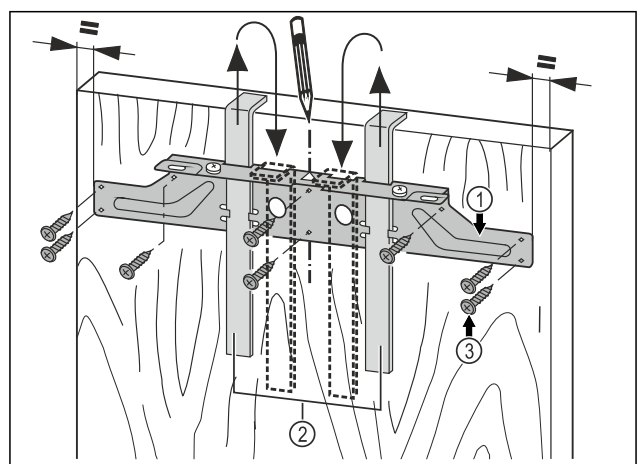

Fig. 20
- ▶ Hang the fastening bar Fig. 20 (1) with the mounting aids on the inside of the unit door Fig. 20 (2).
- ▶ Align the fastening bar Fig. 20 (1) in the centre of the door.*
- ▶ Tighten the mounting bar Fig. 20 (1) with at least 6 screws Fig. 20 (3).
- ▶ Screw the mounting bar Fig. 20 (1) to the edge with 4 screws Fig. 20 (3).
- ▶ Pull the assembly devices Fig. 20 (2) upwards and push them, at an angle, into the receiving openings.